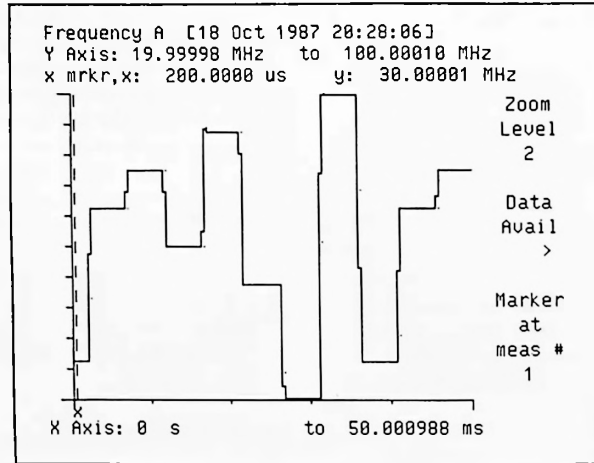

Figure 15. Trends and transients are easily seen when using the time variation mode. Here we see a frequency agile carrier hopping.
1) Time Variation graph - plots the measurement's value versus the time at which it was taken, for the last block of a measurement session. This graph is useful for characterizing the nature of measurement variations such as trends, transients and frequency of phase modulation (Figure 15).